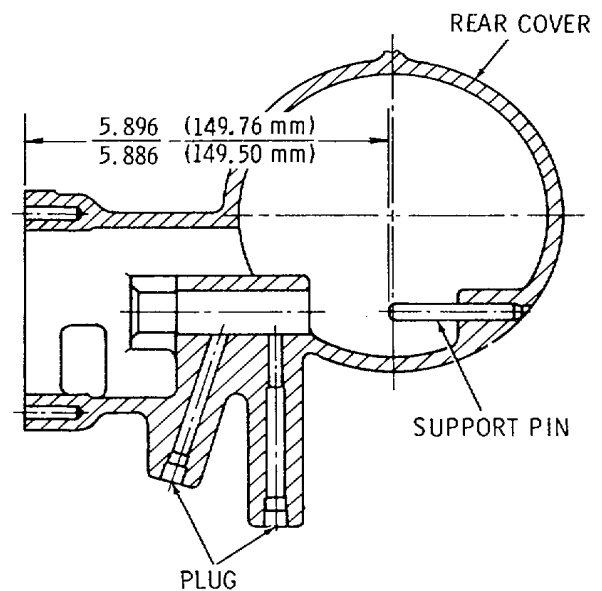

Fig. 6-56. Governor support pin location
(3) If removed, install the governor support pin to the dimension shown in figure 6-56. Accuracy of location and concentricity with the governor bore is of the utmost importance when installing the pin.